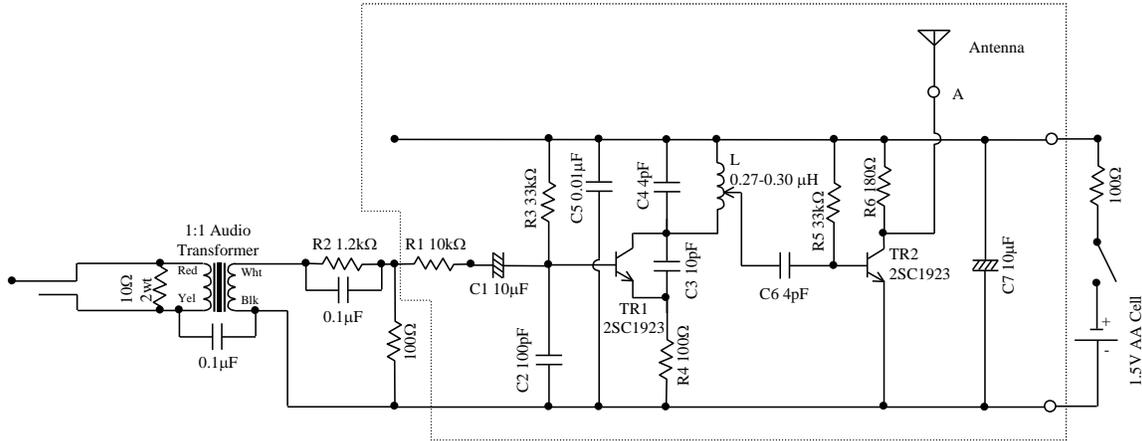

Figure 2. FM Transmitter Schematic
So now I have a hands-off, noise-attenuating headset equipped FM radio (also AM and cassette), but I still can't hear the *Modern Marvels* show about the B-25 crashing into the Empire State Building while I'm drilling my spar. Again, I turned to my brother, tasking him to design an FM transmitter that would plug into the earphone jack on my workshop TV. In response, he created the circuit shown in Figure 2. The portion inside the dotted outline is most of a kit available at Radio Shack®. I built it, plugged it into the TV, and it worked great. Not only does it work in the garage, but I can receive the signal over about 70% of the yard when it's time to mow (no change in reception when it's not time to mow).
- 2) Do not install resistor R2 per the instructions with the kit. You will use it in a slightly different location as per Figure 2.
Build the remainder of the transmitter according to the schematic in Figure 2. When you are done soldering to the circuit board, clean the bottom (solder side) with an old toothbrush and isopropyl alcohol.